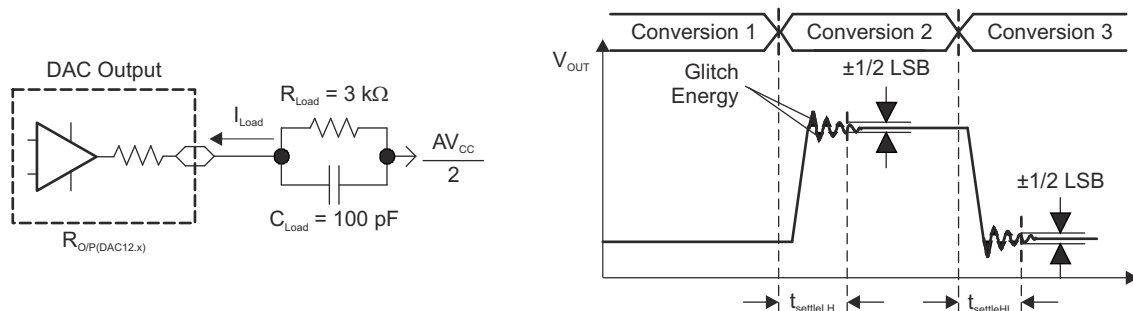
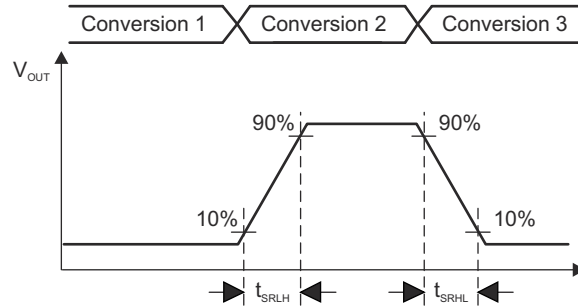

图 8-19. Settling Time and Glitch Energy Testing
图 8-20. Slew Rate Testing
V_{REF} = V_{CC}, DAC12IR = 1 (see 图 8-19 and 图 8-20), over recommended ranges of supply voltage and operating free-air temperature (unless otherwise noted)
- (1) R_{Load} and C_{Load} connected to AV_{SS} (not AV_{CC}/2) in 图 8-19.
(2) Slew rate applies to output voltage steps ≥ 200 mV.